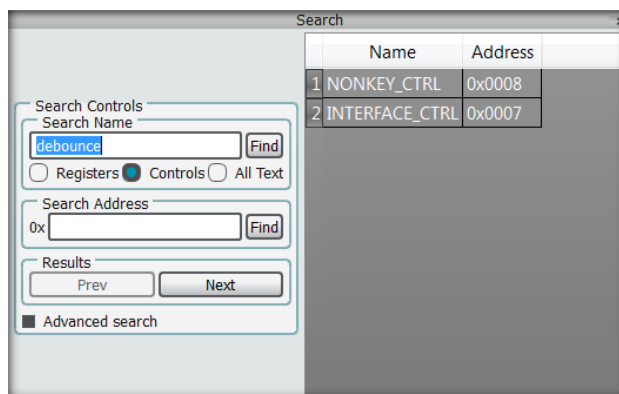

**Figure 21: INI File Control**
The **INI File Control** window, see Figure 21 allows the loading of .ini file formatted project files to the main interface registers by pressing the **Download** button. The **Open** button will load the chosen file path ready for download to the device. The **Save** button will save the main interface register values of the related OTP registers as an .ini formatted file.
8. Open the **.ini** configuration file using the DA9313 SmartCanvas **INI File Control Open** control, see Figure 21.